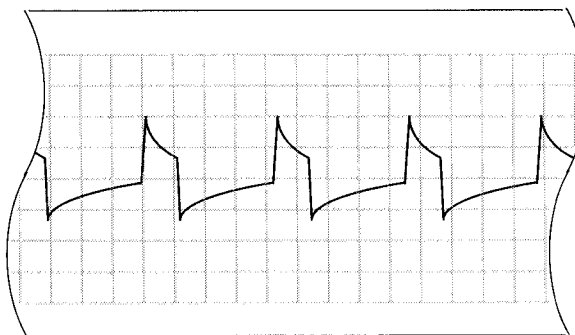

Figure 6-1 Calibration signal at monitor frequency response
- 15 Press RECORD. Recorder should run and trace should appear within one second. Press rear panel CAL button several times. Calibration signal should appear on scope and be recorded on ECG paper approximately eight seconds later. Signal recorded should match Figure 6-1 when monitor frequency response is selected on SETUP menu.